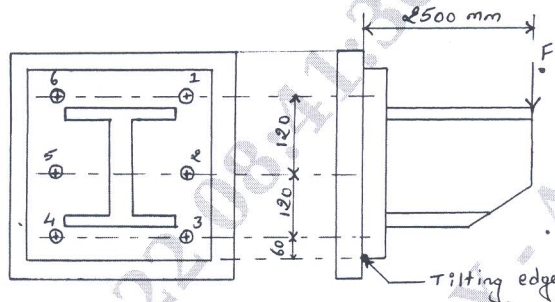

Fig.Q7(b)
b. Determine the load carrying capacity for a riveted joint shown in Fig.Q7(b). The allowable stresses in 25mm diameter rivets are 100N/mm^2 in tension and 50N/mm^2 in shear.